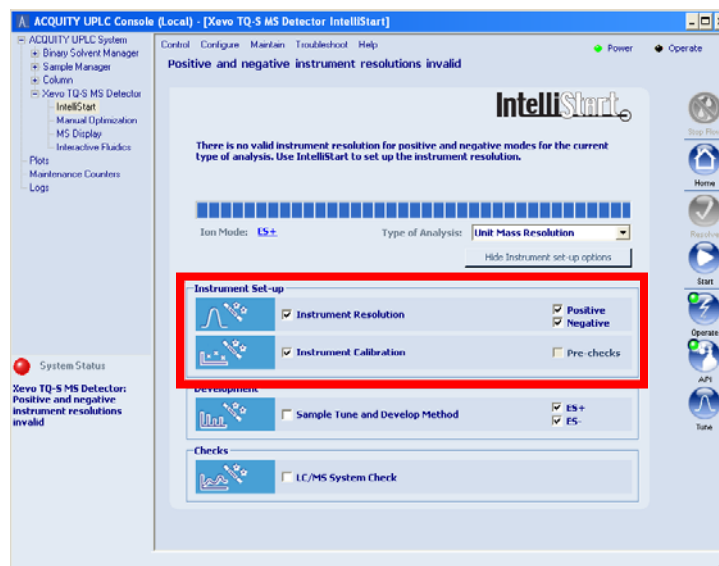

Figure 20 - Specifying the initial IntelliStart parameters
10. Once the purges have completed, select the **Instrument Resolution, Positive, Negative, and Instrument Calibration** check boxes as shown in Figure 20.